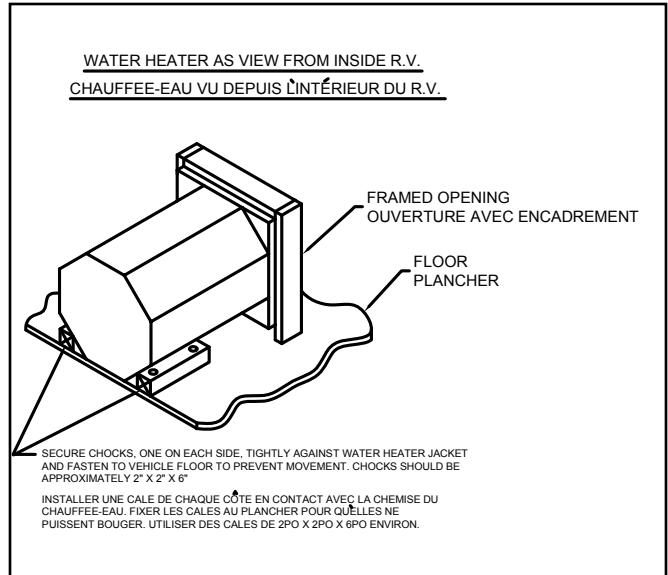

Figure 1A
**C.** Install chocks, one on each side of water heater, as illustrated in Figure 1A.
**G.** Insert door frame into control housing and secure with four (4) No. 8-15 x 3 1/2" screws provided.